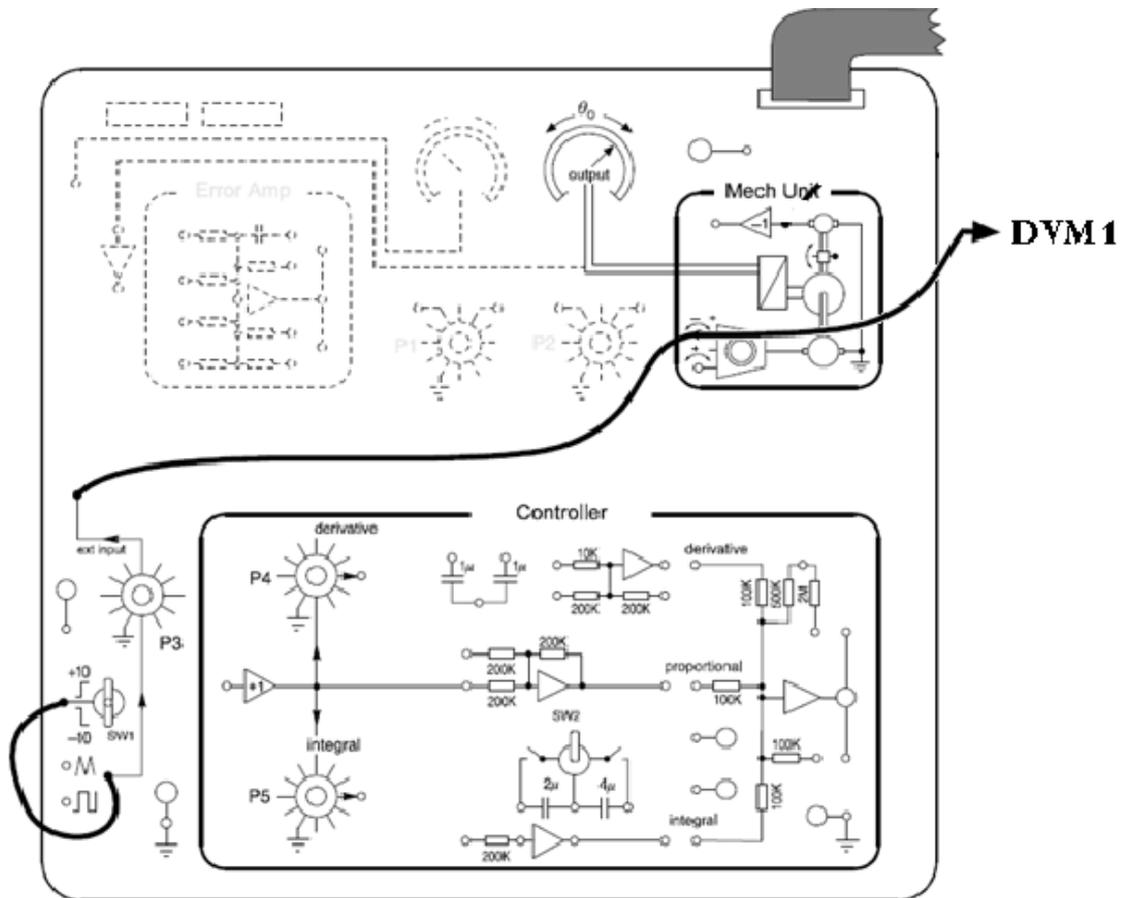

Figure 8. Connections for PART I.
The overall characteristics of a motor may be considered from two aspects, both of which can be related to the idealized representation of Figure 8. These aspects are: **Steady-state**, which are concerned with constant or very slowly changing operating conditions, and **transient**, corresponding with sudden changes, both are important in control system applications.
2. Arrange the system as shown in Figure 8, where P3 enables a voltage in the range ± 10 V to be applied to the power amplifier.